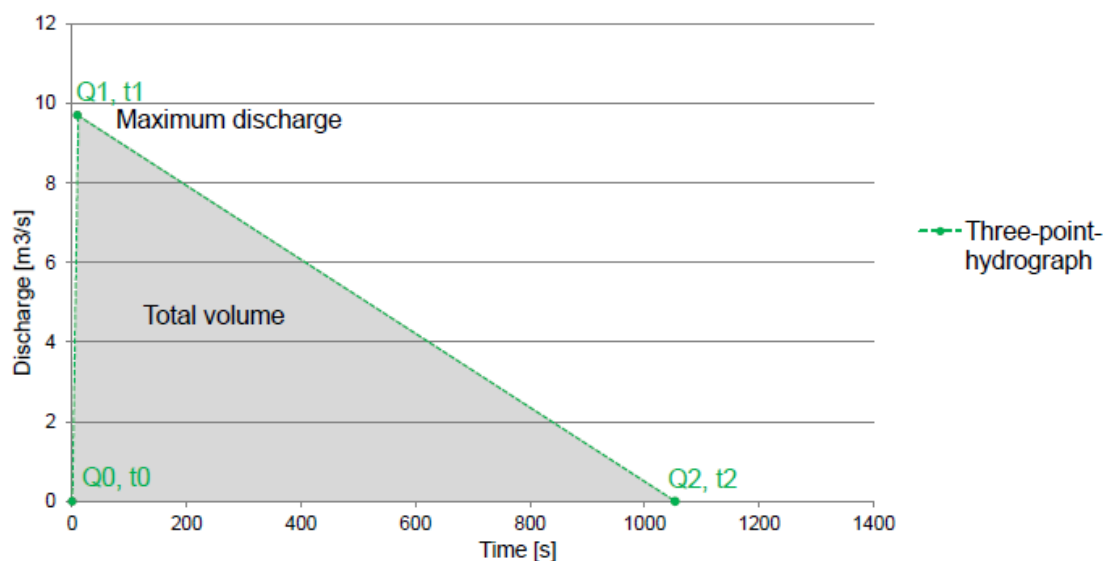

Figure 3.33: Three-point hydrograph with total volume of debris flow.
Field measurement of debris flow properties is beyond the scope of this handbook, however if debris flow activity in a catchment is frequent, it may be possible to obtain additional information for calibrating RAMMS by installing a monitoring station. Many debris flows, when the monitoring data are simplified, have a relatively simple triangular wave-like shape (Figure 3.33). Assuming a well-estimated total volume (e.g. field data), maximum debris flow discharge (Q) and corresponding time (t_1), as well as the end time (t_2) can be calculated. We call this a three-point hydrograph calculation.